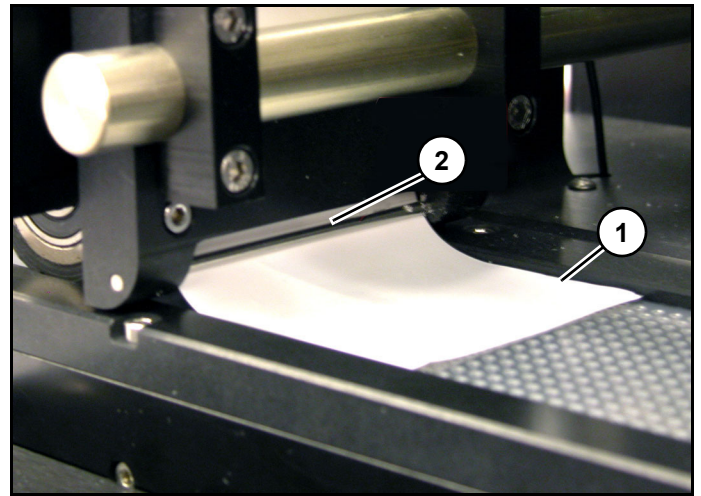

Figure 7
6. Pull tape (1) through seal guide. Ensure tape is positioned on left side of silver rod (2). (Figure 7)